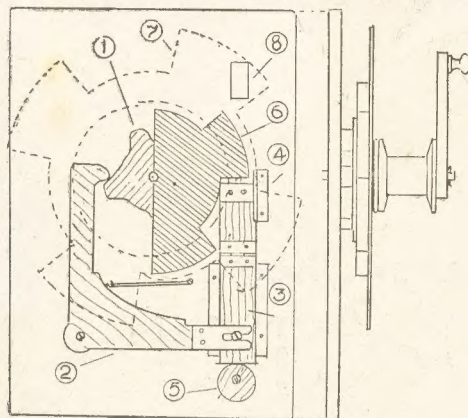

Fig. 1—Plan and elevation showing the parts
Fig. 1. Being numbered, it is easy to identify them from the text. (1) is a cam rotated by the handle, seen in the side view, (2) is a crank moved by the cam and actuates the traveller, (3), which carries the tooth pulling the film down one frame at a time.